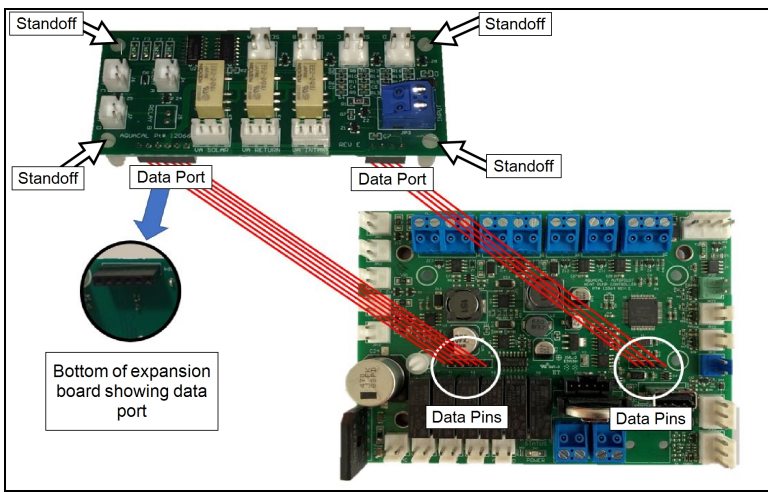

Figure 1 - Port Connections
7. Press the expansion board onto the control board making sure that data pins are aligned with data ports as indicated in Figure 1. There should be an audible "snap" as each of the four standoffs are pressed into place.